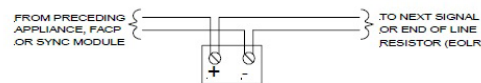

Figure 1
- Break all in-out wire runs on supervised circuits to ensure integrity of circuit supervision as shown in Figure 1. The polarity shown in the wiring diagrams is for operation of the appliances.